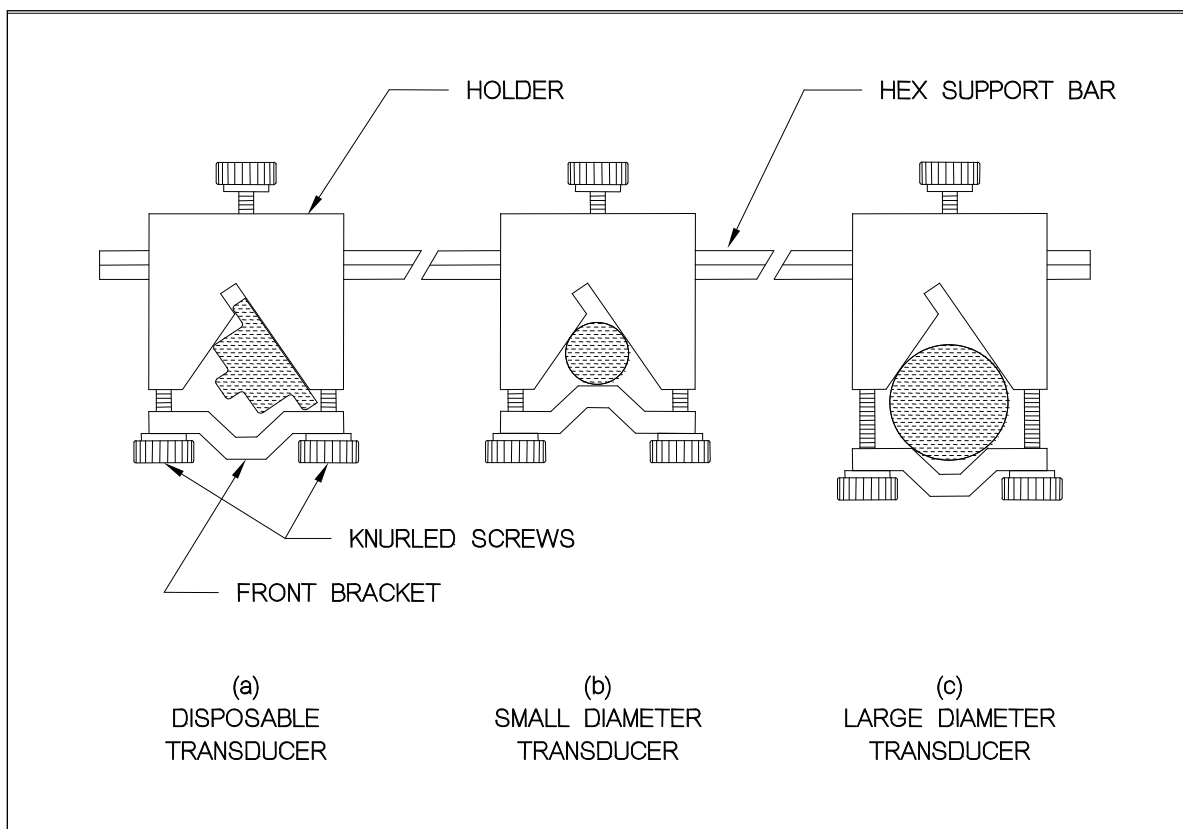

Figure 7: Universal Transducer Holder Assembly
- Slide the transducer between the front bracket and the V-shaped cutout in the holder as shown in Figure 7(a), 7(c).
- To hold a smaller diameter transducer, remove the 2 front knurled screws completely and reverse the front bracket of the transducer holder as shown in Figure 7(b).